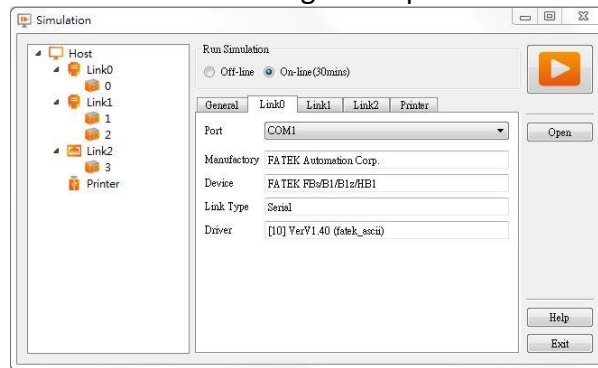

Figure 421 Online simulation connection setting
**【Online Simulation】** is as shown in Figure 421 Similar to **【Offline Simulation】**, a simulator is opened on the PC. However, the PC will communicate with the PLC. Therefore, if there is no PLC connected to the PC, the PLC is not responding, or there is a PLC connection setting error, communication error message will be generated. Online Simulation not only can verify the accuracy of the screen/logic, but it can also verify the accuracy of the communication.